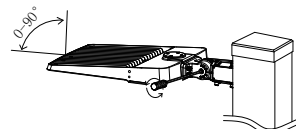

Figure 3-1-4
- Step4: If the installation angle of the fixture needs to be adjusted, loosen the screws of the bracket and fix them again after finished adjustment, Figure 3-1-4;